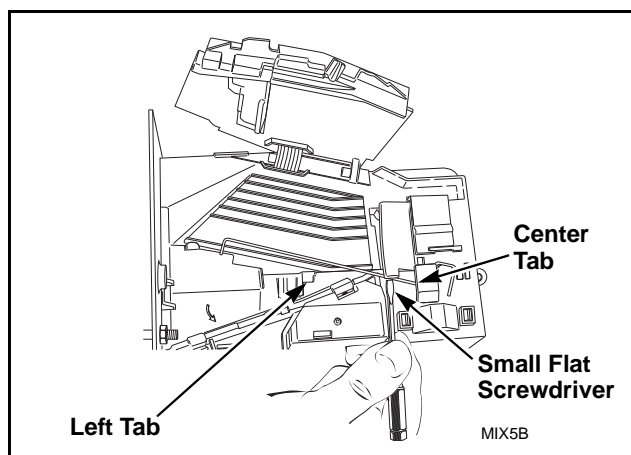

Figure 9
- (10) Attach clip to new tension spring, Part No. 209/00598/02.
- (12) Use a small flathead screwdriver to push spring under center tab. Refer to *Figure 9*.